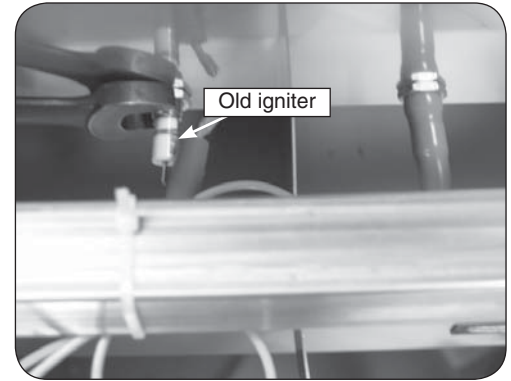

Fig. 2-1 Remove old igniter electrode
6. Remove the existing igniter box by first loosening the nut on the faceplate side of the fire wall with a wrench. Disconnect the wire connector from the electrode and pull it through the hole (see Fig. 2-1). Unplug the other end and discard the old wire (see Fig. 2-2).